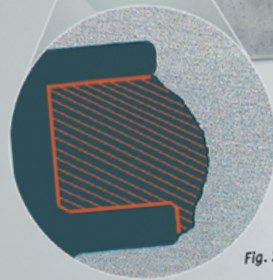

Fig. 2 Cross section of fracture
- Fracture, starting at the groove base at the top and running at a diagonal angle into the piston material, emerging at the groove base underneath (Fig. 2).